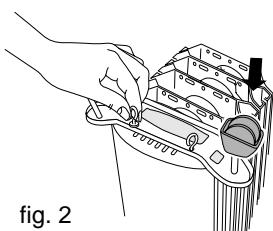

fig. 2
- Use the 2 screws supplied with the appliance to fasten the feet in position (fig. 2).